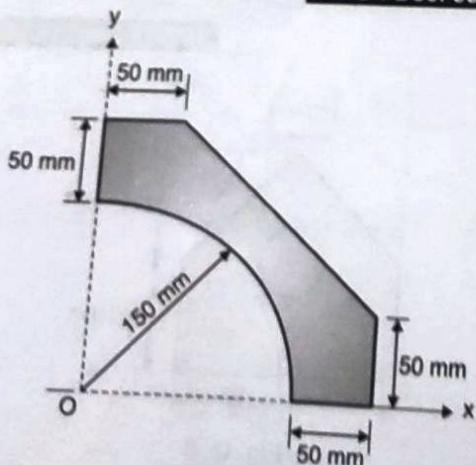

Fig. Q. 9
- Q. 9** Locate the centroid of the shaded area as shown in Fig. Q. 9.